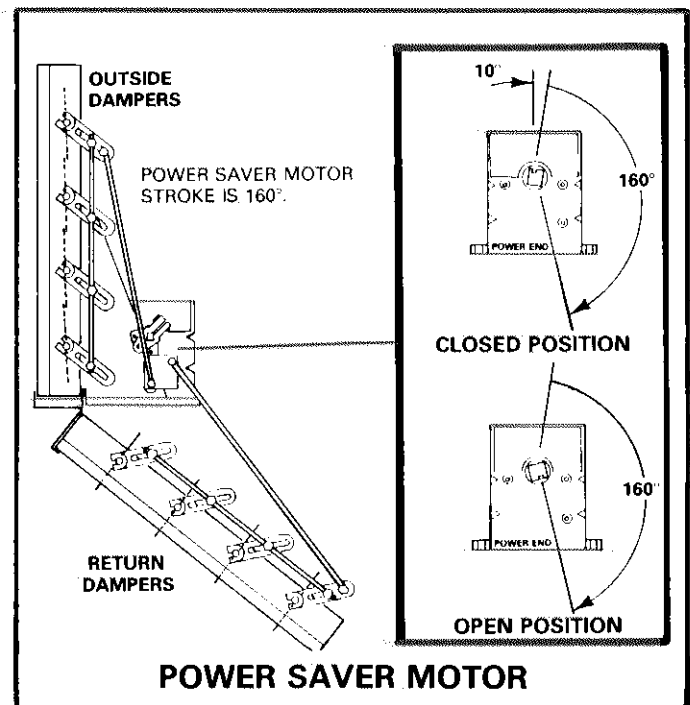

FIGURE 14
- 3 - The power saver motor includes a spring return feature which closes motor on a power failure. The motor stroke is 160 degrees as shown in Figure 14 and the timing is 40 seconds. With R-W terminals shorted or B leg open, the motor drives outside dampers closed. With R-B terminals shorted or W leg open, the motor drives outside dampers open.